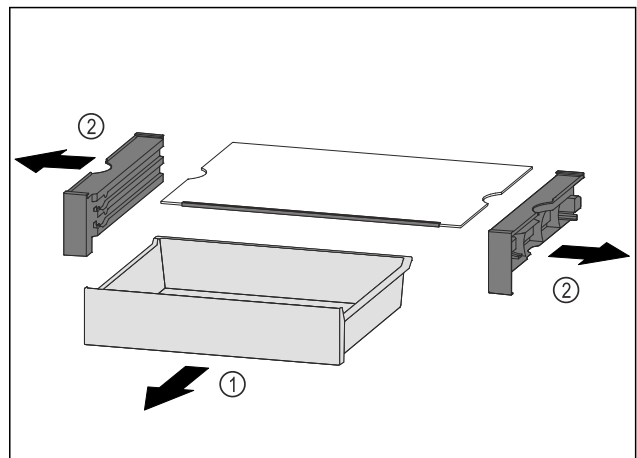

*Fig. 137*
- ▶ Set VarioSafe in refrigerator compartment at an angle. *Fig. 137 (1)*
- ▶ Take VarioSafe out to the front. *Fig. 137 (2)*